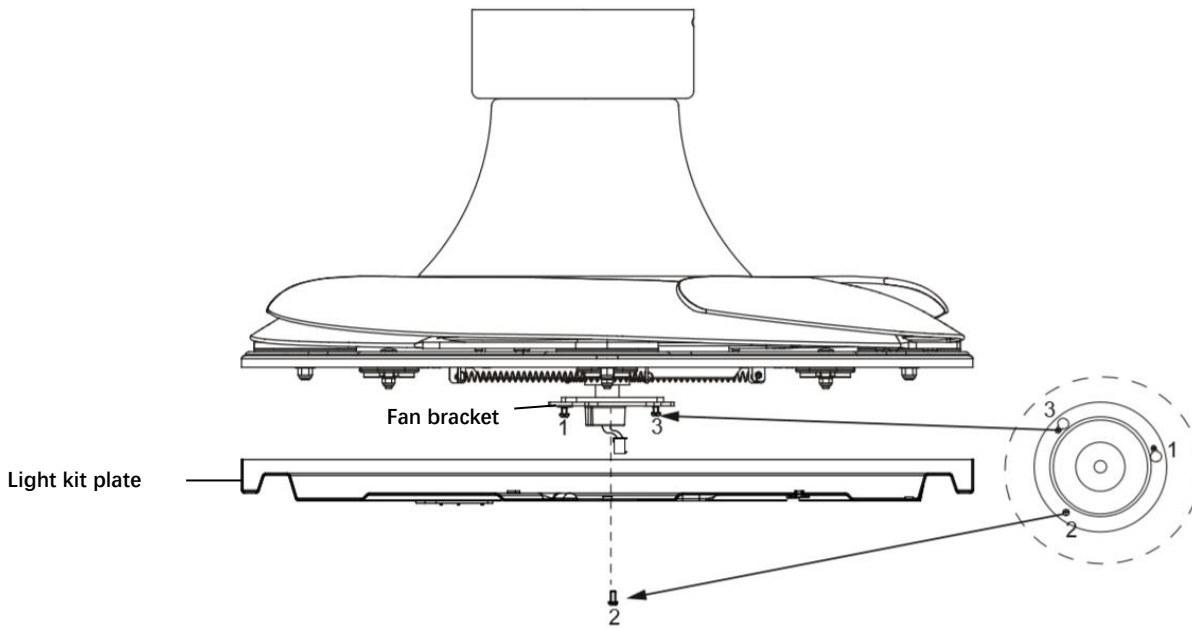

Fig. 6
LIGHT KIT INSTALLATION (Fig. 6 & 7)
1. Loosen the screw (2) from the fan bracket. Align the two slot screws (1 and 3) with the keyhole slots (1 and 3) of the light kit plate . (Fig. 6)
3. Secure screw (2) to the light kit plate. Tighten all three screws. Do not over-tighten.